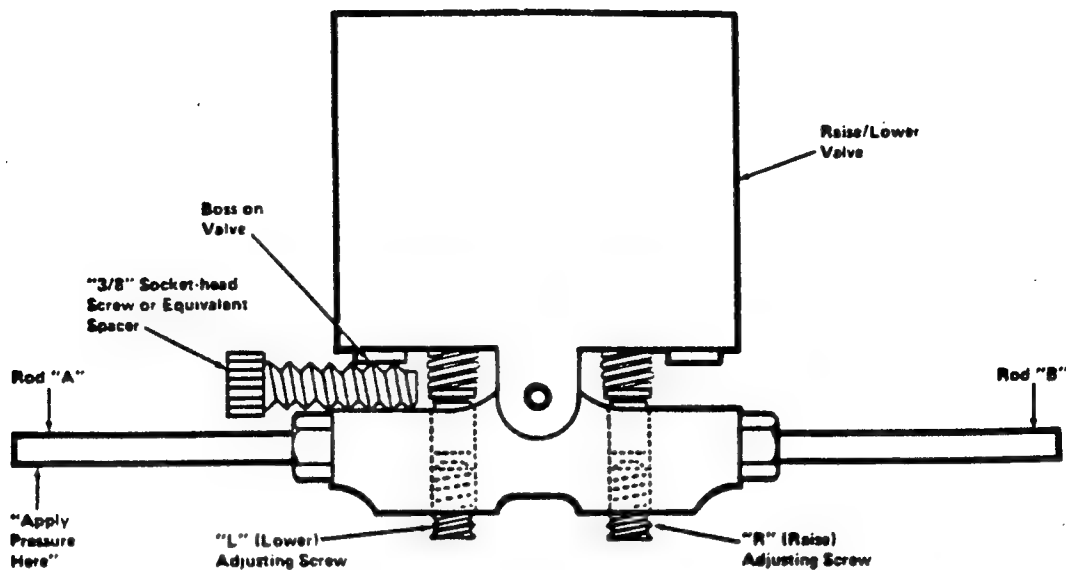

Figure 2-2. RAISE/LOWER VALVE (TOP VIEW).
(1) Raise and support base cover as described in paragraph 1a of this chapter.
(2) Refer to Figs. 2-2, 8-30 and 8-37, sheet 2.
(3) Place a ¾" diameter screw or equivalent spacer between valve 55278 and valve lever 78199 as shown in Fig. 2-2.
(4) Apply pressure on rod "A" (Fig. 2-2) to prevent spacer from dropping out.
(5) Keeping pressure on rod "A", insert Allen wrench in adjusting screw "L" and slowly turn clockwise until tabletop starts to lower; then turn wrench counterclockwise ¼ turn.
(6) With pressure still applied to rod "A", insert Allen wrench in adjusting screw "R" and depress **POWER** pedal with your right knee. Slowly turn wrench clockwise until tabletop starts to rise; then turn wrench counterclockwise ¼ turn.
(7) Release pressure on rod "A" and remove spacer. Lower base cover.
(8) Operate the **RAISE** and **LOWER** pedals to be sure table is functioning; then test adjustment of raise/lower valve as follows: